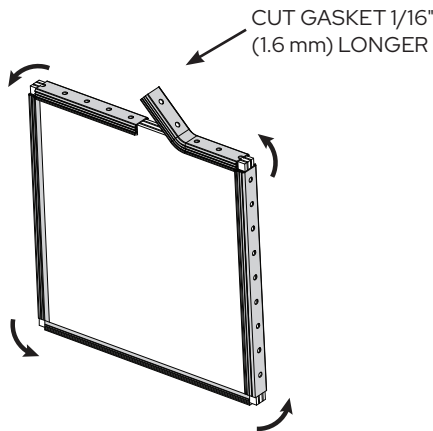

FIG. 1
1. Starting at the top center, wrap the glazing gasket around the perimeter of the glass. (FIG. 1)
2. When joining the ends of the glazing gasket, cut glazing gasket 1/16" (1.6 mm) longer for each side of glass panel to allow for shrinkage. (FIG. 1)